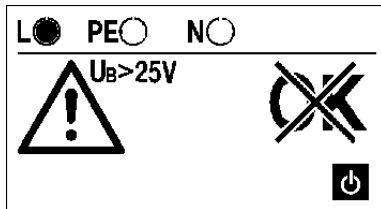

Figure 5.7.1:
- ☞ If a contact voltage exceeding 25 V is measured during RCD test, the test is immediately interrupted and the test instrument shows the "⚠" (14) and 'contact voltage' (15) symbols, in compliance with Figure 5.7.1.